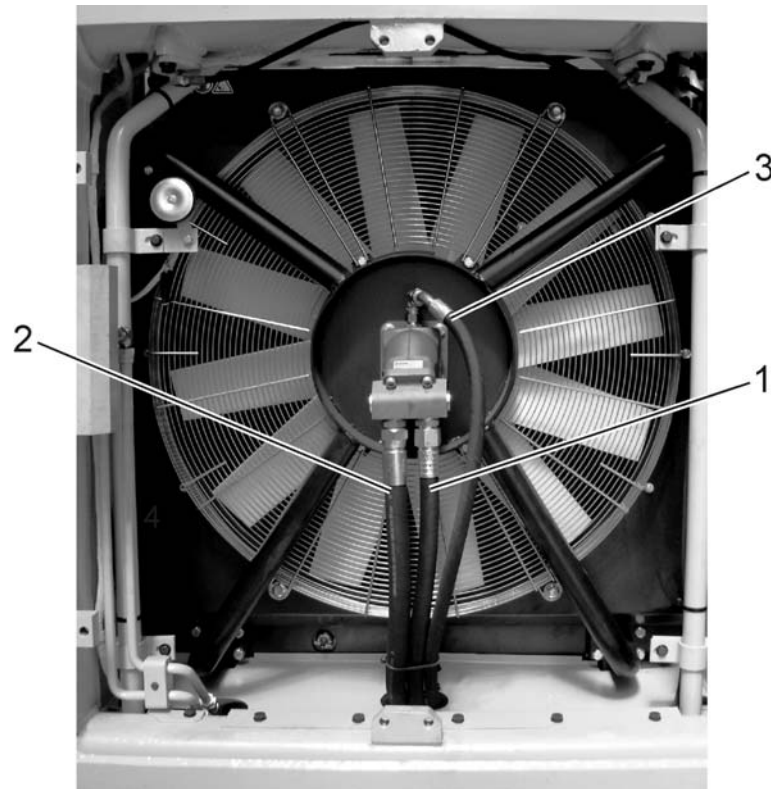

Fig. 6.5. Fan Drive Hydraulic Motor Disassembly Points
15. Remove hose (3) from fan drive hydraulic motor oil cooler. Secure hose in an upright position to frame.
17. Tag and remove hydraulic hoses (1, 3 and 4, Fig. 6.5) from fan drive hydraulic motor. Secure hose in an upright position to frame.
4. Reinstall hydraulic hose (2) to fan drive hydraulic motor oil cooler.
5. Reinstall hydraulic hoses (1, 3 and 4, Fig. 6.5) to the fan drive hydraulic motor.